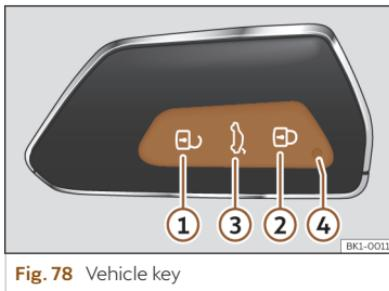

Fig. 78 Vehicle key
When a button is pressed briefly on the vehicle key, the control lamp ④ **>>> Fig. 78** flashes once briefly, but if pressed for a long period of time, it will flash several times, for example, in the convenience opening.